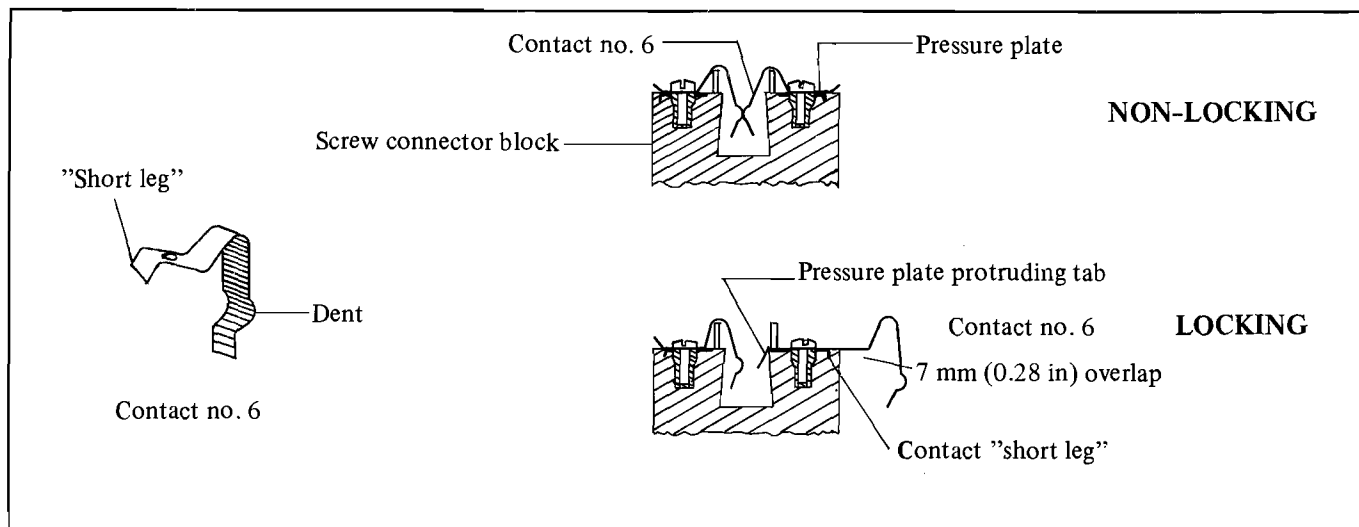

Figure 15-10 Factory Data Link Connection Box Security Lock
- In the locked configuration, the Factory Data Link plug can only be removed from the connection box after dismantling the locking mechanism with a screwdriver. The security lock is a function of the position of the no. 6 contact and pressure plate in the connection box as shown in figure 15-10.
- 4) Turn the contact laterally through 180° and press the "short leg" at the rear of the contact into the slit next to the threaded hole of the connection box. This makes the contact non-functional by placing it in a storage position (see figure 15-10).
- 5) Replace the pressure plate with its protruding tab facing downward into the throat of the connector. This is achieved by passing the tab through a slit between the threaded hole and the connector throat (see figure 15-10).